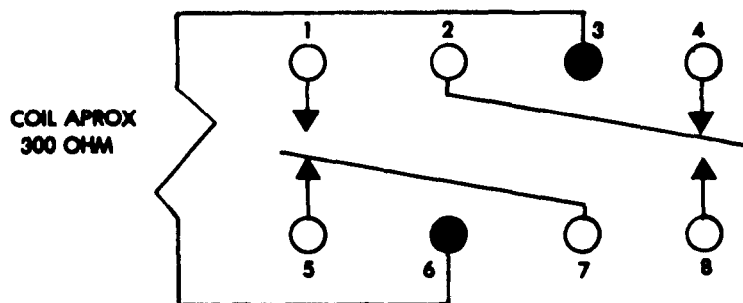

Figure 4-33.1. Relay K1.
(3) Relay Assembly (A1). Inspect relay assembly (5) for physical damage. Check that electrical connections to assembly are clean and tight. Check that assembly is securely attached to control cubicle.
(4) Relay (K1). Inspect relay (6) for physical damage and continuity (see figure 4-33.1). Remove relay from socket and inspect for bent or missing pins. Check that relay is secured to socket with two screws.